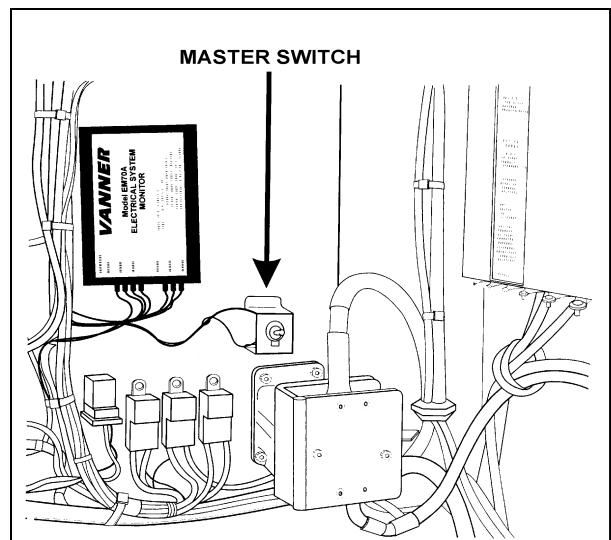

Figure 2 : main power switch
2. Set the battery master switch to the "OFF" position (figure 2).
28. The installation is now completed. Close all compartment doors and set the battery master switch to the "ON" position (figure 2).